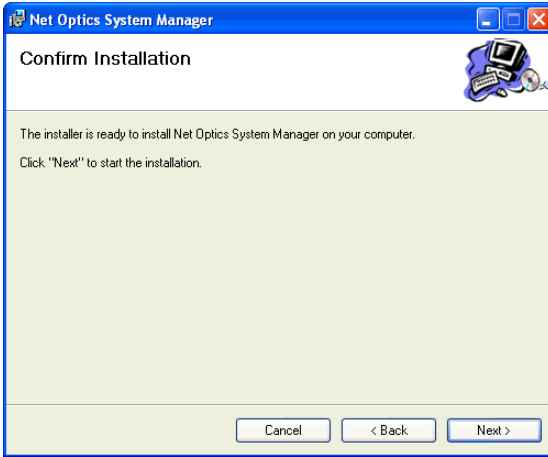
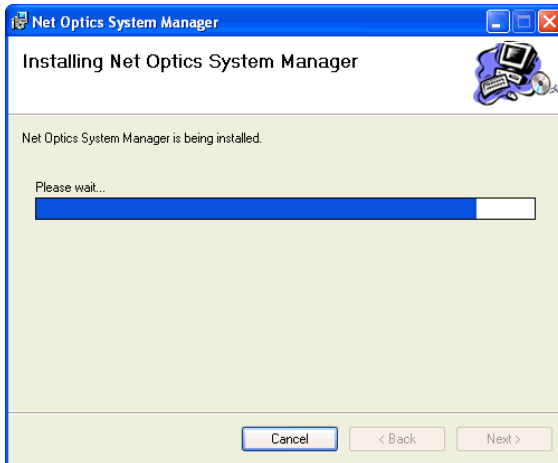

Figure 19: Confirm Installation
Figure 20: Installation Progress
5. Click **Next**. The Confirm Installation dialog box shown in Figure 19 appears. To continue the installation, click **Next**. The Progress dialog box appears as shown in Figure 20.